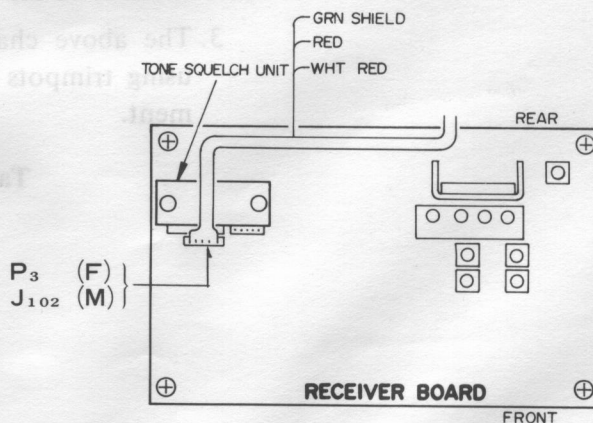

Figure 5.
- (3) Refer to Figure 5, and unplug P₃ from its jack J₁₀₂. Install the FTS-1-1/PB onto J₁₀₁, and reinstall P₃ onto J₁₀₂. Installation is now complete.